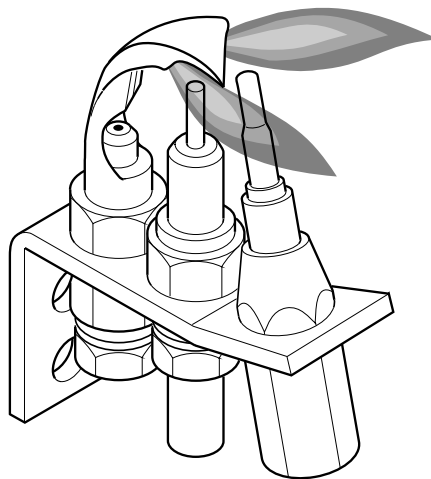

Figure 17 - Viewing Pilot
7. With control knob depressed, push down and release ignitor button. This will light pilot. The pilot is attached to the front of burner. You can see pilot through front glass of heater (see Figure 17). If needed, keep pressing ignitor button until pilot lights.